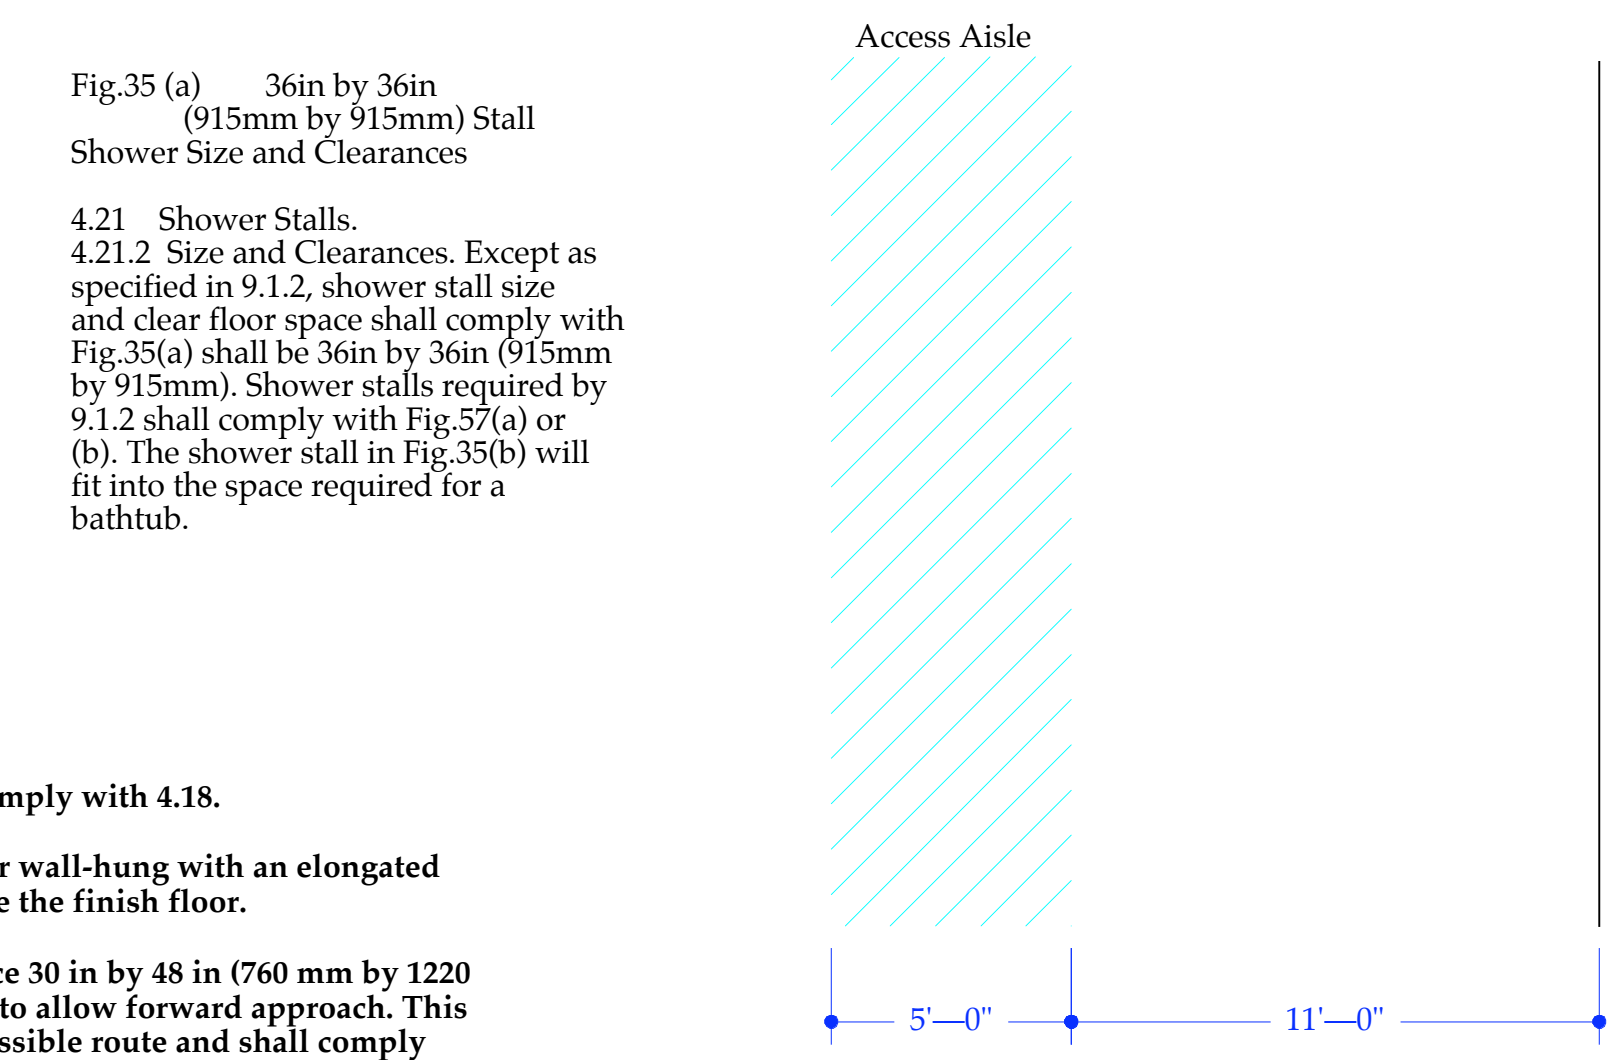

Fig.35 (a) 36in by 36in (915mm by 915mm) Stall Shower Size and Clearances
4.21.2 Size and Clearances. Except as specified in 9.1.2, shower stall size and clear floor space shall comply with Fig.35(a) shall be 36in by 36in (915mm by 915mm). Shower stalls required by 9.1.2 shall comply with Fig.57(a) or (b). The shower stall in Fig.35(b) will fit into the space required for a bathtub.